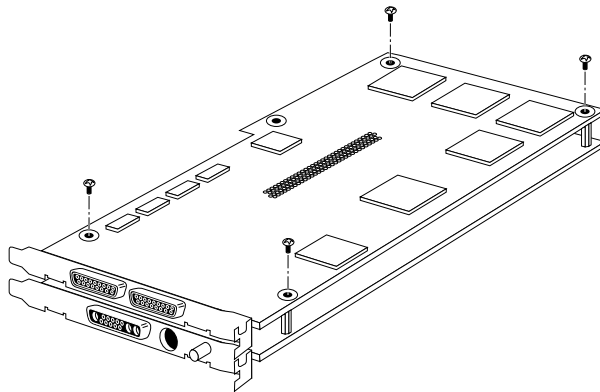

Figure 3-2 Aligning the video board over XL graphics
5. Align the video board over the graphics board, as shown in Figure 3-2.
8. From the top, insert a screw through the video board into each of the four standoffs as shown in Figure 3-2.